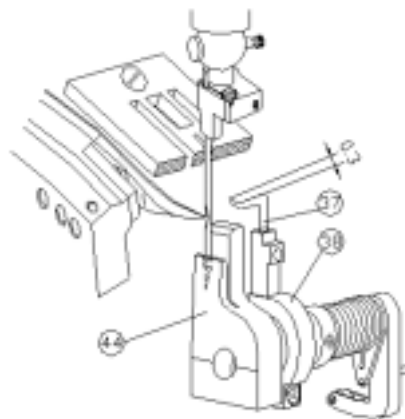

FIG. 13
The thread catcher (37) should be mounted in such a way that its tip projects 0.3 mm in front of its shank. FIG. 13.